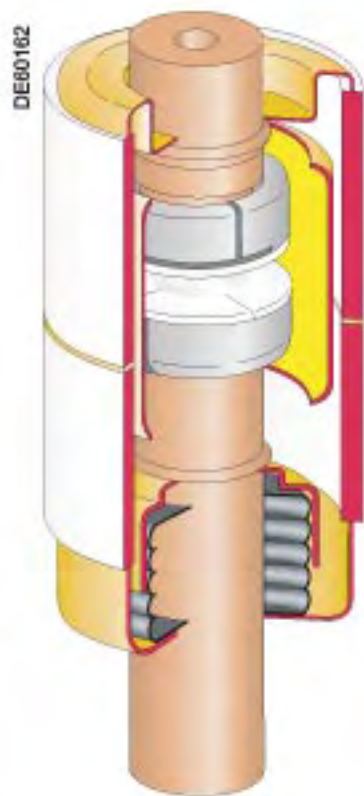

Fig 5: 24 kV internal coil type interrupter
- or by a coil integrated in the interrupter contact structure (fig. 5), for the 24 kV voltage level.